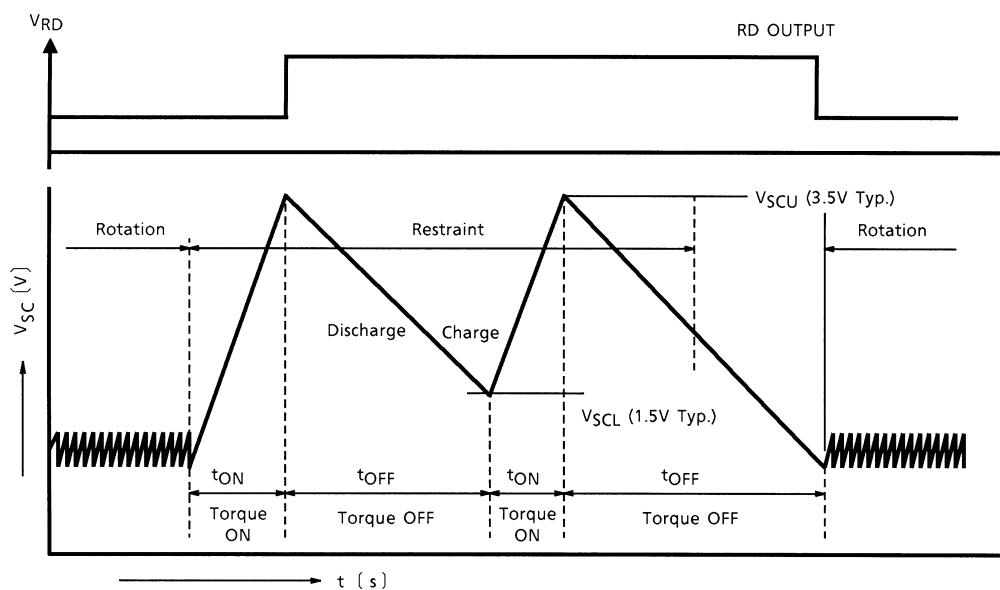

Fig. 2
The FG output is pulse proportional to the number of revolutions (the cycle is the same as OUT B) and the RD output is at the GND level (actually, at Vsat (RD) level) when the motor is being driven and the RD output at the potential level that is to be applied to the RD terminal as shown in Fig.2 is output when the motor is kept restrained.
This operation is shown in Fig.2.